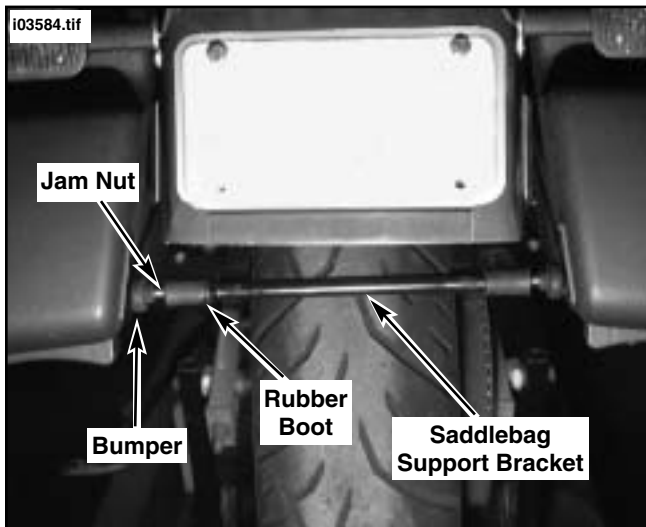

Figure 15 Perform Saddlebag Alignment
- See Figure 15. Slide rubber boot away from bumper assembly.